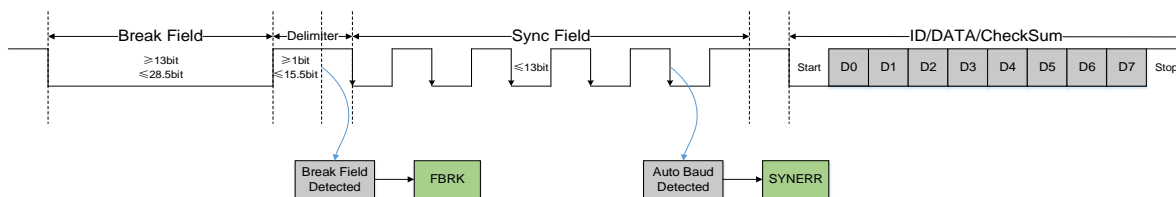

Figure 7-5 LIN frame flow
The UART LIN is just a software LIN which transmits the break field, synchronous field and data respectively controlled by user as Figure 7-5. User can learn more details in the newest LIN protocol. Figure 7-5 just illustrates a basic frame condition. User should pay more attention to the UART_LINCR register in addition to the basic UART registers. In UART module, there exists a hardware unit for LIN detection and it is enabled when LINEN is configured to 1. It should be noted that only UART0 supports LIN function.
The UART-LIN frame flow is shown as Figure 7-5, the receiving process follows the steps:
2. After delimiter bits period in Figure 7-5, sync field namely 0x55 acts as a normal data for receiving. If LABAUDEN is configured to 1, auto baud rate detection is in operation during synchronous field and the auto baud rate detection operation is finished just after the fifth falling edge illustrated in Figure 7-5. But the data 0x55 will not be stored into RX data register or FIFO. If LABAUDEN is configured to 0, auto baud rate detection is not performed and the data 0x55 is stored into the RX data register or FIFO. The baud rate synchronization function supports -50%~+100% deviation of the master baud rate, otherwise a sync field error SYNERR may occur.
To avoid the module halting when exception condition occurs, time out mechanism is brought in, as illustrated in Figure 7-5.